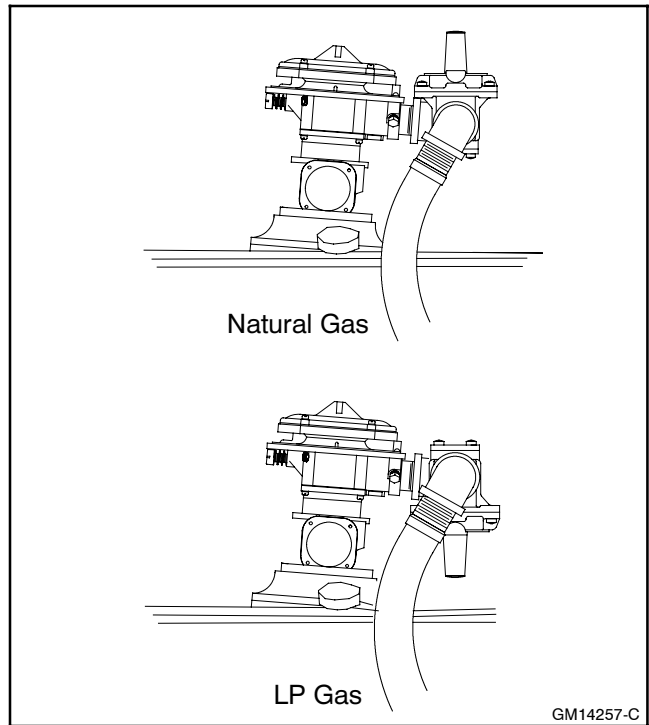

Figure 9-25 Fuel Regulator Position for Natural Gas to LP Gas Vapor Conversion
- See Figure 9-25 for natural gas fuel regulator configuration. The fuel regulator is pointing upward for use with natural gas.
- Rotate the fuel regulator 180° clockwise (CW) so that the fuel regulator is pointing downward for use with LP gas as shown in Figure 9-25.
- Apply pipe sealant to the elbow threads and locate the fuel line with elbow to the opposite side of the fuel regulator as shown in Figure 9-25. Apply pipe sealant to the threads on the other end of the fuel line and attach to the fuel supply connection.